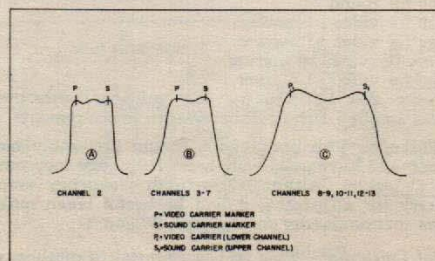

Fig. 14. R-F Alignment Curves
individual channels, as in Figure 14, and (3) for the response curve to be adjusted for maximum amplitude consistent with correct bandwidth. To provide these minimum requirements, the r-f coils are overcoupled and loaded with resistance. Tuning of the coils is affected by changing inductances of the individual coils. Except for the Channel #2 and the Channel #3 coils, the coupling is fixed by the design of the coil and switch wafers.
For Channels #2 and #3, the r-f coils should be aligned to give approximately the curve shown in Figure 14-A and 14-B. The "P" marker represents the video carrier marker, while the "S" marker is the sound marker. The frequency of these markers is indicated for each step of the alignment procedure. Adjustment